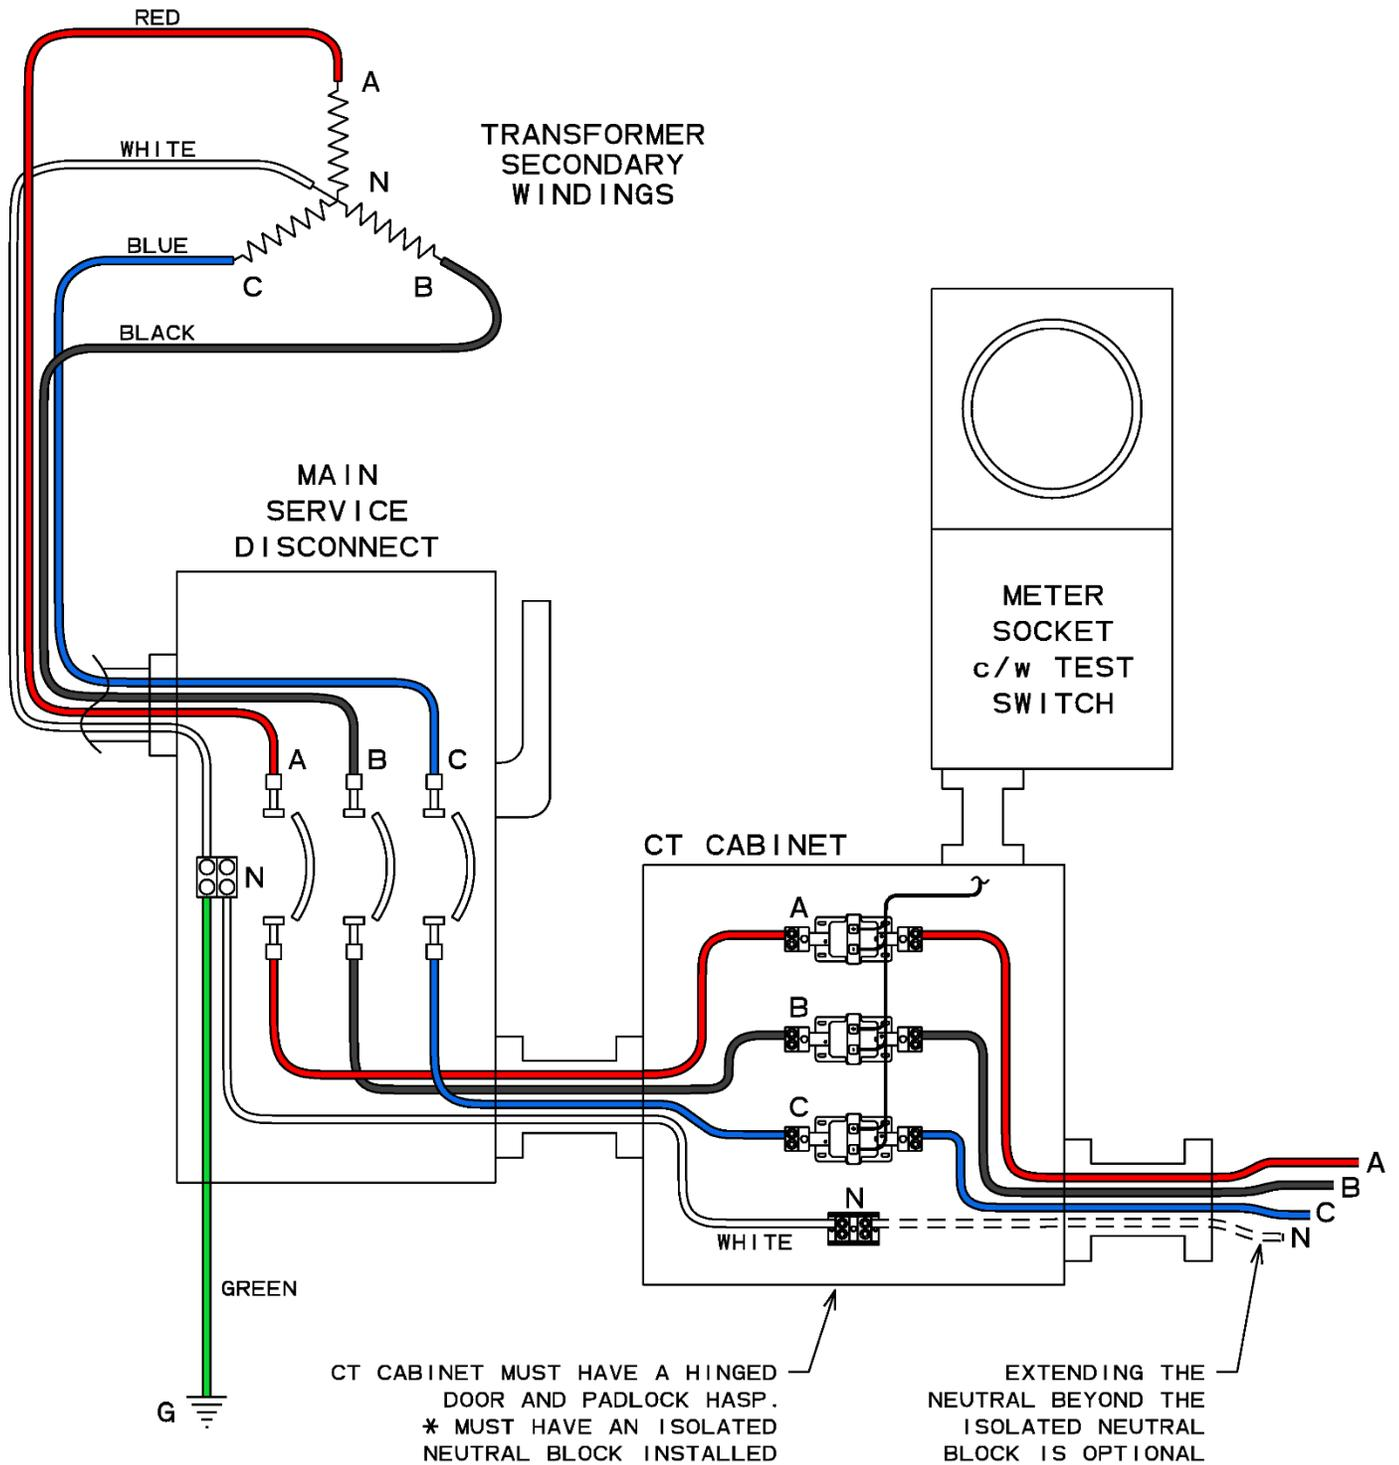

Figure 7 - 3 Phase 4-Wire Y Instrument Metering Wiring Detail
5.18.5.4. Unless an NGR is installed, all three-phase services will be supplied as 4-wire solidly grounded-wye. The grounded conductor required by Canadian Electrical Code Rule 10-210 [B1] shall be run from the X0 bushing of the supply service transformer to the bonding point in the main service disconnect. When the neutral is not required beyond the bonding point, FortisAlberta will except a minimum size of #6 AWG white insulated conductor run from the bonding point to an isolated neutral block in the instrument transformer enclosure for all indoor metering installations (refer to Figure 7).